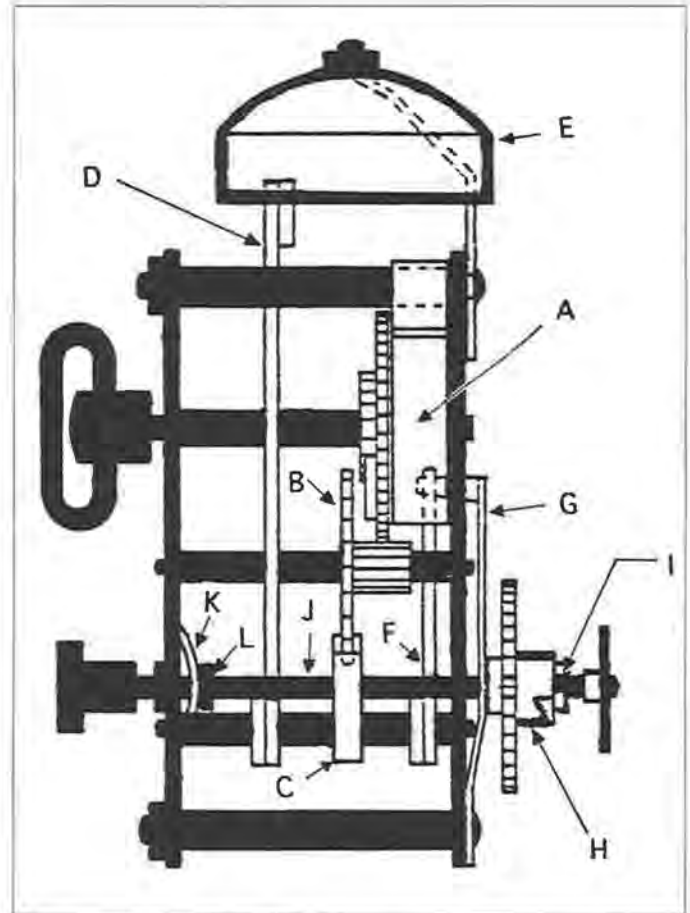

Figure 1. Alarm Mechanism
Figure 1 illustrates the alarm mechanism of a typical alarm clock. (A) indicates the alarm spring, (B) the escape wheel, (C) the lever (of recoil design), (D) the hammer, (E) the bell, (F) the hammer locking arm, (G) the hammer locking arm spring, (H) the cam wheel, (I) the camming finger (pin), (J) the alarm set-arbor, (K) a friction spring to hold the set-arbor in set position, and (L) a collar to hold tension on the friction spring.
lutions every 24 hours. It turns freely on the alarm set-arbor (J). When setting the alarm, the camming finger (I) forces the cam wheel (H) inward (to the left in Figure 1) to hold the hammer locking spring (G) under tension, with its tab-end in the path of the hammer locking arm (F), to lock the hammer (D). As the clock runs, the cam wheel (H) turns, while the set-arbor (J) remains stationary, due to the tension of friction spring (K) until the lip on the cam wheel (H)
moves past the edge of the camming finger (I). When this occurs, the cam wheel (H) moves away (to the right) under the tension of the hammer locking spring (G) and out of the path of the hammer locking arm (F) freeing the hammer (D) and escapement to ring the alarm bell (E) as shown in Figure 2. Figure 3 illustrates the position of the cam wheel and the camming finger just prior to alarm activation, as in Figure 1.